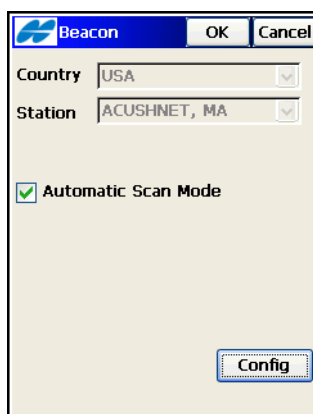

Figure 8-24. BR-1 Configuration
1. Tap the **Config** button to send the appropriate configuration command for BR-1 radio channels (Figure 8-24 on page 8-24):